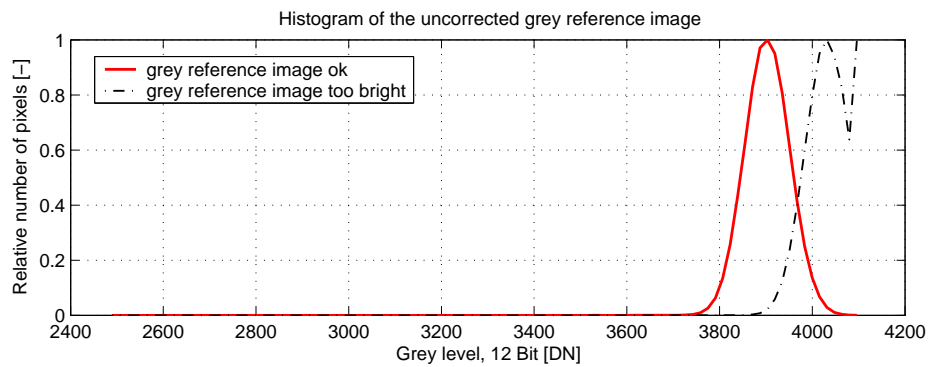

Figure 4.36: Proper grey reference image for gain correction
- When looking at the histogram of the grey reference image, ideally there are no grey levels at full scale (4095 DN @ 12 bit). All pixels that are saturated white will not be properly corrected (see Fig. 4.36).